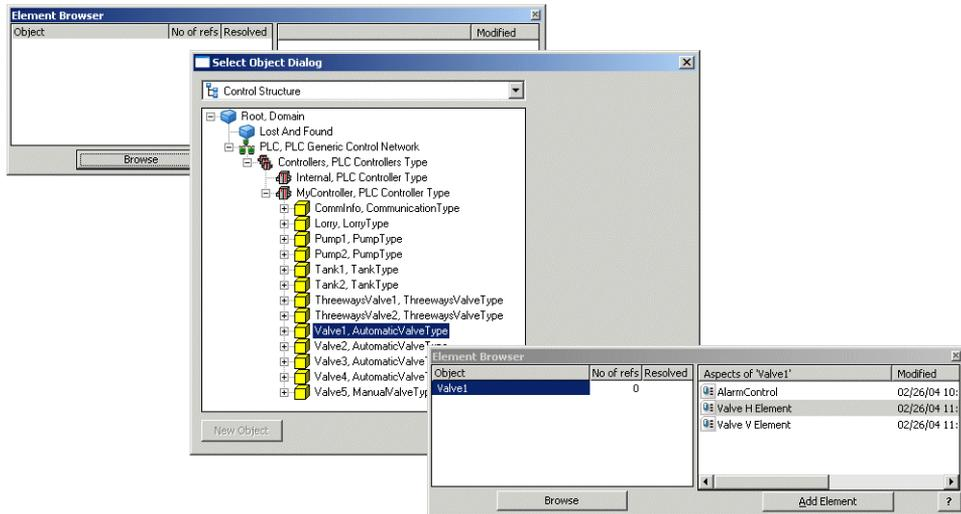

Figure 126. Inserting PLC Connect Element in Graphic Display
2. Find the Element Browser window and click Browse. See Figure 126.
3. Select **Control Structure** and select your PLC Connect Process Object and click OK. See Figure 126.
4. Select then your Graphic Element Aspect in the right pane and press **Add Element**. See Figure 126.